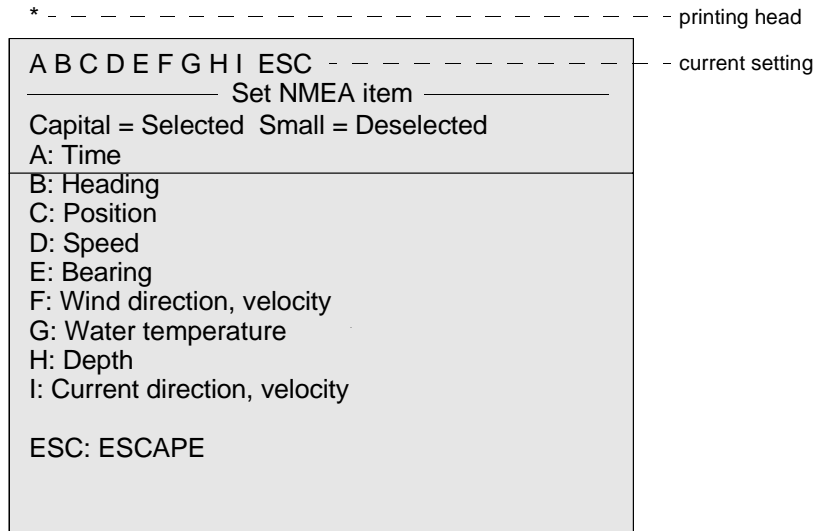

Figure 16. Main Menu Printout
- 46. To select navigation data to be printed, select “C” on the main menu and set NMEA (or CIF) to ON by entering lower case character “e”, then press ENT key (figure 3, item 4). The receiver prints out the following (figure 16).